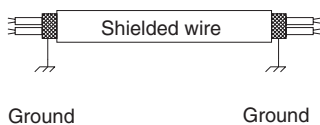

Fig. 4-4
- (5) Use shielded wires for inter-unit control wiring (c) and ground the shield on both sides, otherwise misoperation from noise may occur. (Fig. 4-4)